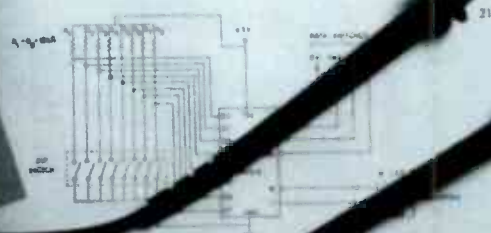
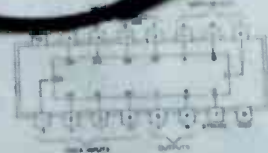

Fig. 16 Circuit for Experiment 2
Fig. 17 Pin diagram for 74151A.
Figure 16 shows the circuit diagram for this experiment. You will also find numbers for the IC pins included on the diagram. For those, look at the numbers in Fig. 17, which show pin numbers 74151A data. For the data input, you'll use an eight-pin DIP switch in conjunction with the 100 ohm resistor. For the clock and strobe lines, finally, you'll use the master clock switch.
2. Connect the eight 100 ohm resistors to the DIP switch as shown in Fig. 16. Connect the opposite end of each of these resistors to the 5V supply. The second terminal of each switch is to be connected to the common ground.
4. Next, connect the master clock switch to the Strobe and Master clock on the IC, using Fig. 17 as a guide. Insert the SW1 switch into the circuit.